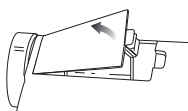

Fig. 15
- 3 Push in the locking tab and lift off the battery compartment cover. (Fig. 15)